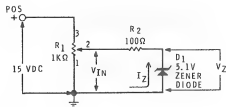
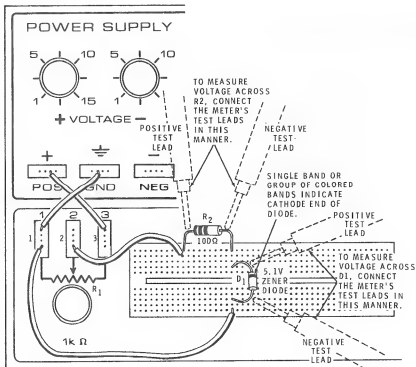

Figure 3-71
Figure 3-72
1. Construct the circuit shown in Figure 3-71 using the 1 k ohm potentiometer on your Experimenter, a 100 ohm resistor, and the zener diode. Figure 3-72 shows one way you can wire the circuit.
Observe the polarity of the voltage applied to D_1 in Figure 3-71. Is D_1 forward or reverse-biased? _____
- Connect your voltmeter across D_1 as indicated in Figure 3-72. Then, turn R_1 slowly clockwise and observe the increase in voltage across D_1 as indicated on your meter. Continue turning R_1 until the voltage across D_1 stops increasing at a rapid rate and effectively remains constant. At this point stop turning R_1 and, as accurately as you can, measure the voltage across D_1 . Record this voltage in the DIODE VOLTAGE column (upper space) of the table shown in Figure 3-73.
- Measure the input voltage V_{in} between potentiometer terminals 1 and 2 as indicated in Figure 3-71. Record your value in the INPUT VOLTAGE column (upper space) of the table shown in Figure 3-73.